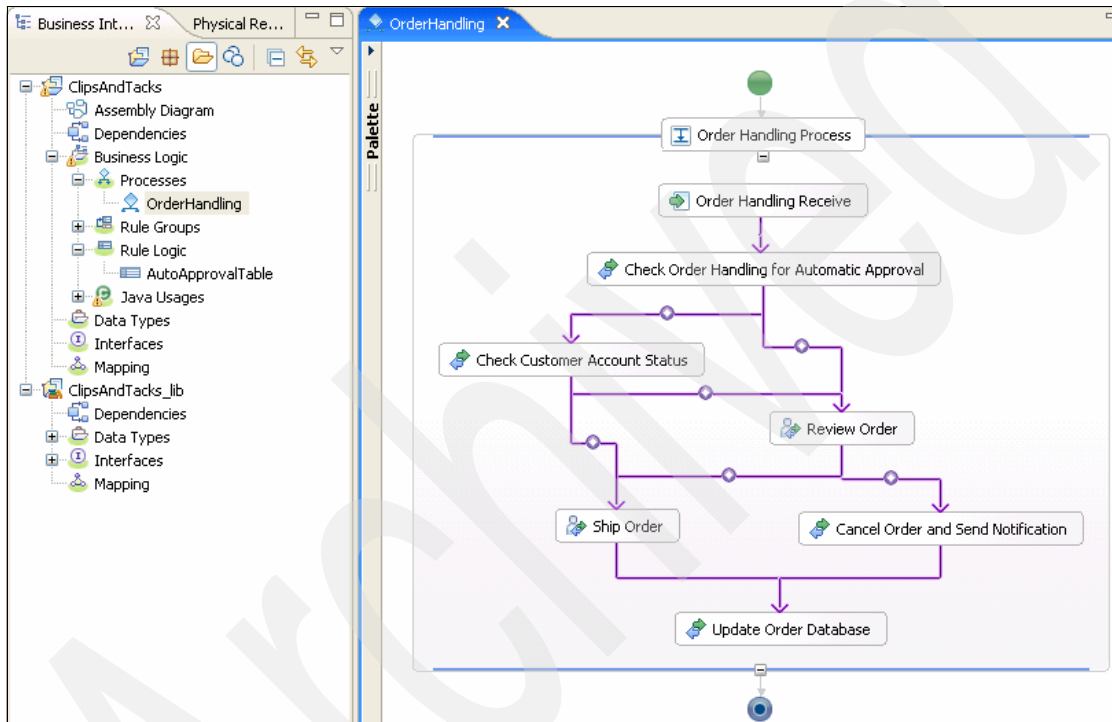

Figure 5-12 Order Handling process view
1. Double-click the **OrderHandling** process to open the process in the BPEL editor (Figure 5-12).